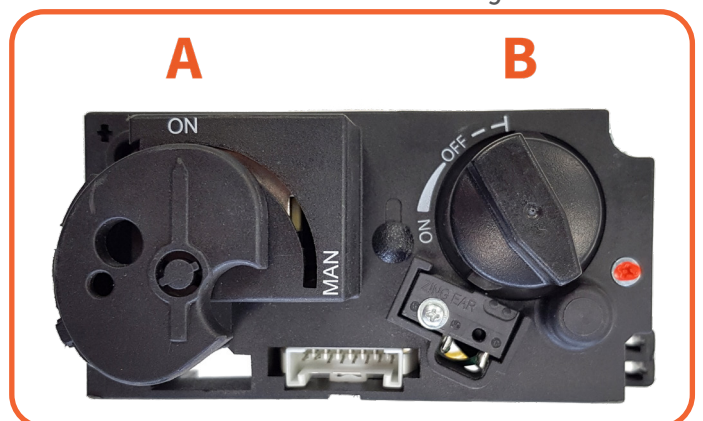

Figure 4.3 - Gas Block
Check that the control knob (A) is in the ON position (*Fig 4.3*). Press the button on/off button of your remote control and continue to hold down (3 to 5 sec.) until you hear two short beeps.
After starting the pilot, knob B will automatically rotate counter clockwise and the main burner will start burning (*Fig 4.3*). Always wait 5 minutes after killing the pilot light before you start the pilot flame again.